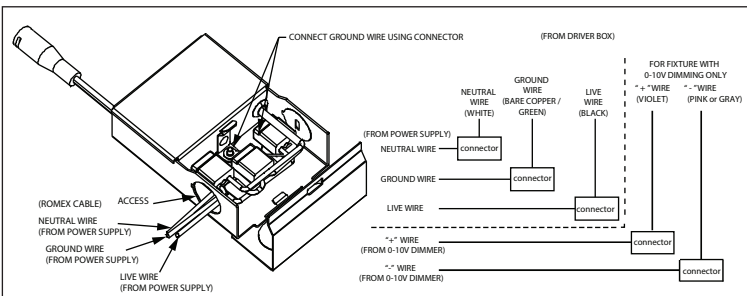

Figure 2 / Figura 2 / Schéma 2
- Connect black wire to live wire, white wire to neutral wire, and green wire with ground (as shown) and secure using wago connector. Close the cover of the box. (Figure 2)
- For 0-10V dimming**, use Wirenut to connect violet dimmer wire from fixture (+) to positive (+) wire from dimmer and pink or gray dimmer wire (-) from fixture to negative (-) wire from dimmer. **See dimmer electrical schematic for more info.** Close the cover of the box. (Figure 2)